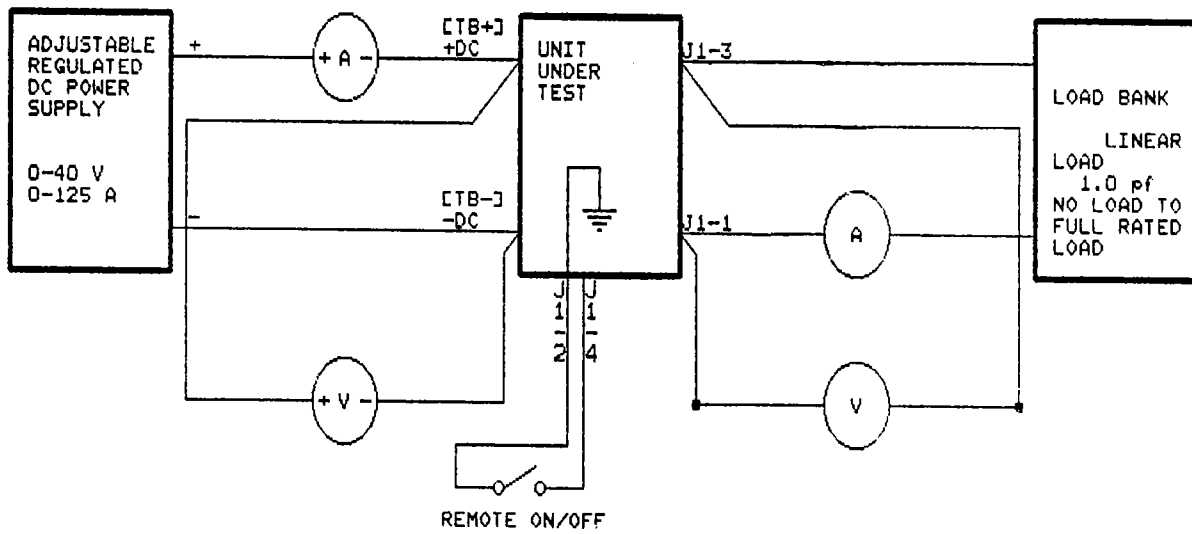

FIGURE 102
Figure 102 specifies the connections for the test setup.
A. Test Setup (See Figure 102)
- (1) Connect dc power supply, dc ammeter (with shunt, if required), and dc voltmeter to input of unit-under-test (UUT) -- TB1 on front panel. (Large diameter stud is positive; small diameter stud is negative.)
## A. Test Setup (See Figure 102) (Continued)